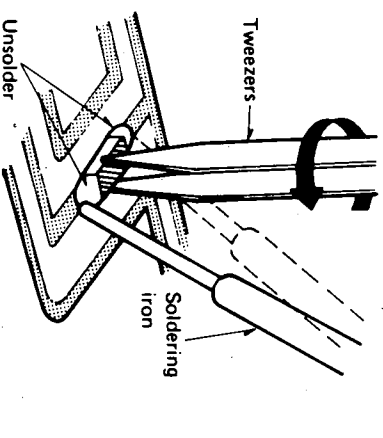

Fig. 22
3. Solder circuit board first and then solder chip in the direction of the arrow as shown in Fig. 22.